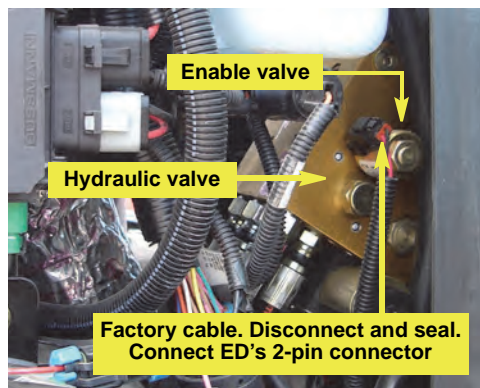

Figure 2e: Factory cabling to hydraulic valve's enable valve.
- g. Locate the factory-installed hydraulic steering valve near the cab firewall (Figure 2e).
- h. Locate and disconnect the 2-pin wire connector from the enable valve (Figure 2e). Seal (weatherproof) the disconnected cable connector with plastic wrap.